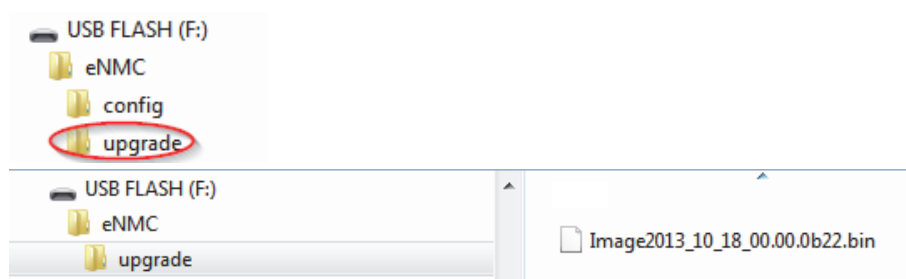

Figure 67. Root Directory of Flash Disk
3. Connect a USB drive to your computer and put the Image*.bin file in the eNMC/upgrade/ location on the USB drive root directory (see Figure 67).